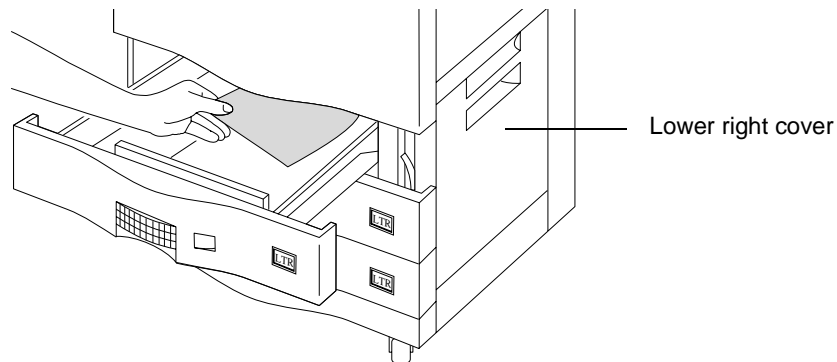

Figure 3-35 Removing paper jam from tray area
2. Examine the right side of the tray area, particularly the extreme upper right, where the paper leaves the tray and is pulled into the paper path. There may be one or more pieces of paper jammed in it. If there is no obvious jam, reach up into the upper right corner of the tray, feel for paper stuck there, and remove any jammed paper. Pull gently, as the paper could tear. Refer to Figure 3-35.